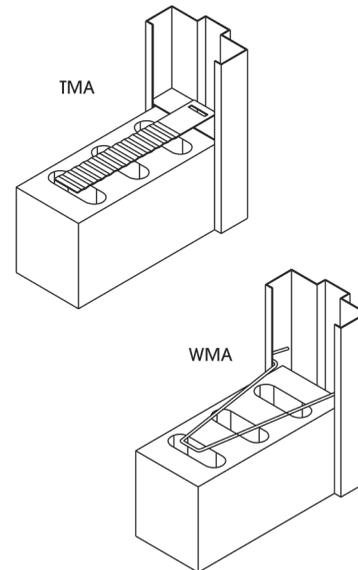

Figure 5 - Anchors
4. Install anchors (see figure 5). Grout frame in the area of the anchors as block courses are laid up. Frames may also be supplied with anchors welded in place.